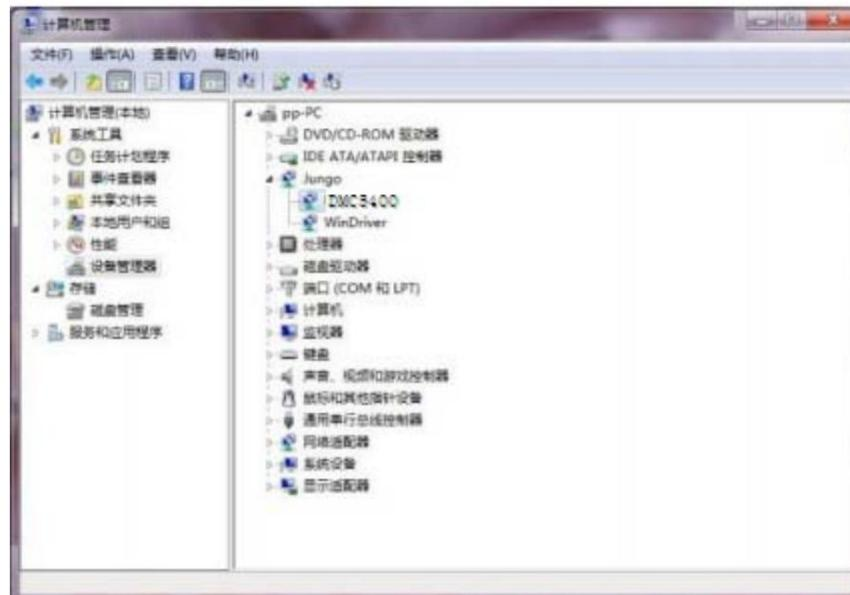

Figure 5-15 Device information after the driver is installed correctly
9. Open the device manager, as shown in the figure 5-15, under the "Jungo" option you can see